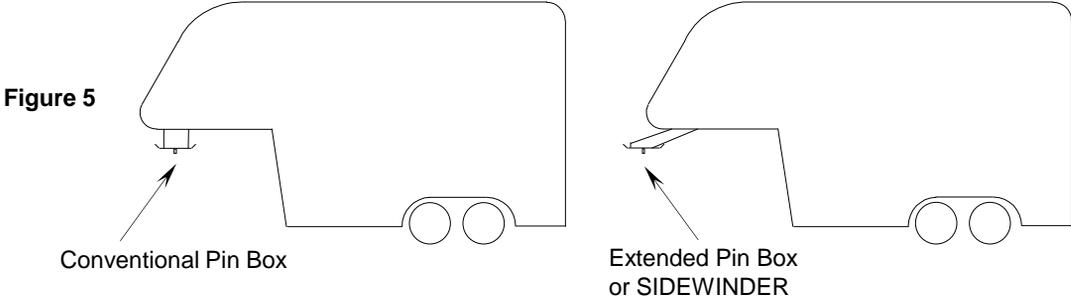

Figure 5
6. If a short bed pickup (less than 8 ft. but longer than 6 ft.) is to be used for towing, Cequent Performance Products recommends the trailer be equipped with an extended pin box or a **SIDEWINDER** Pinbox Coupler to help gain additional truck - trailer turning clearance (See trailer manufacturer for extended pinbox options or your hitch installer for a **SIDEWINDER** Pinbox Coupler) (**Figure 5**). It also may be helpful to add a *Elite Series* Slider for increased turning clearance for low speed, non-highway maneuvering. If the pickup bed is less than 6 ft., a **SIDEWINDER** Pinbox Coupler **MUST BE INSTALLED ON THE TRAILER**.